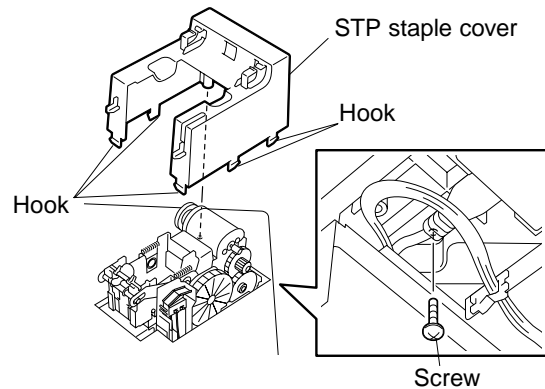

Fig. 6-10
5. Detach STP staple cover. (See Fig. 6-10)
- Detach STP staple cover. (See Fig. 6-10)